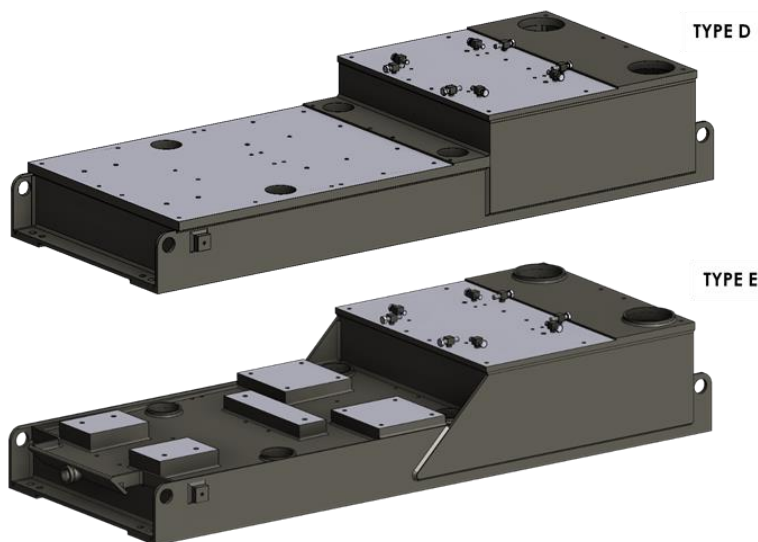

Figure 19: Type D & Type E Baseplates
The baseplate provides a rigid foundation for the pump and driver. Its primary function is to maintain alignment between the pump and driver shafts. Two styles of grouted baseplates are available for the Mark 3 Group 4, Type D and Type E, as shown in Figure 19.
2. The baseplate must provide a reasonably flat mounting surface for the pump and driver. Uneven surfaces will result in a soft-foot condition that may make alignment difficult or impossible. Experience indicates that a baseplate with a top surface flatness of 1.25 mm/m (0.015 in/ft) across the diagonal corners of the baseplate provides such a mounting surface. Therefore, this is the tolerance to which we supply our standard Type D baseplate. Some users may desire an even flatter surface, which complies with API 686-2009 Section 3 paragraph 3.9.4.4 for level requirements. Flowserve will supply flatter baseplates upon request at extra cost. For example, mounting surface flatness of 0.17 mm/m (0.002 in/ft) is offered, as standard, on the Flowserve Type E "Ten Point" baseplate, as shown in Figure 19.